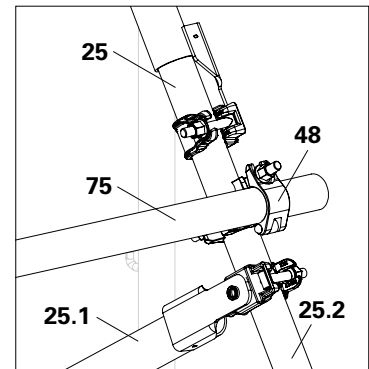

Fig. D7.07a
2. For 3 m long bays, horizontally reinforce each multi brace with an outer tube. For bay lengths ≤ 2.5 m, horizontally reinforce each multi brace with a scaffold tube (75) and standard couplers (48). (Fig. D7.07a)